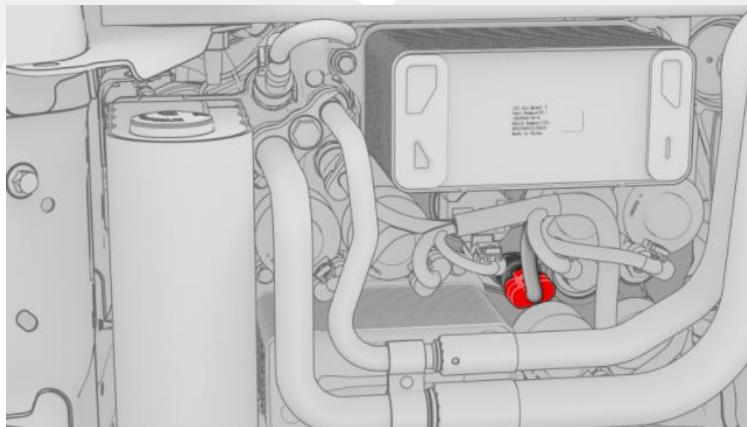

Figure 5
7. Release the locking tab, and then disconnect the electrical harness from the subcool high pressure P/T sensor connector (Figure 5).
16. Connect the electrical harness to the subcool high pressure P/T sensor connector, and then fasten the locking tab (Figure 5).